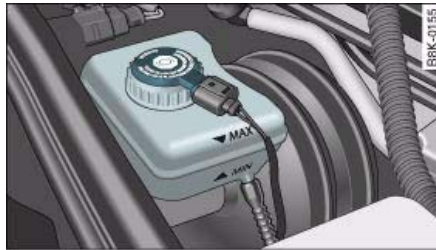

Fig. 216 Engine compartment: Markings on brake fluid reservoir
- Check the fluid level on the brake fluid reservoir ⇒ fig. 216. It should always be between the “MIN” and “MAX” marks.